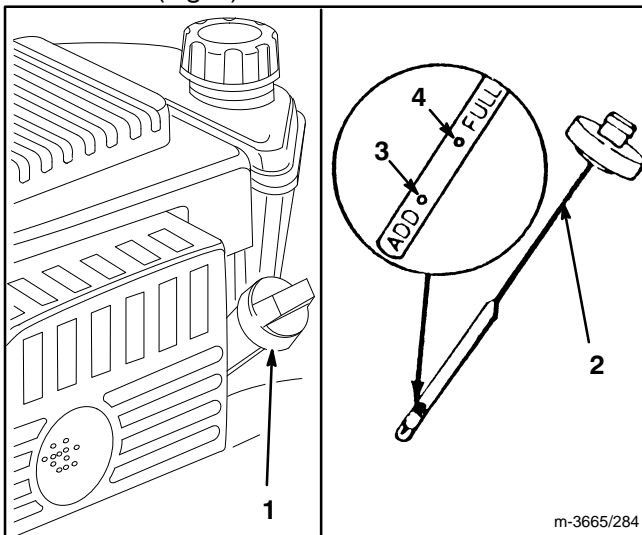

Figure 7
Fill crankcase with SAE 30 or 10W30 oil until oil level reaches FULL mark on dipstick as shown in Figure 7. The maximum crankcase capacity is 22 ounces (0.65 liters) of oil. Use any high quality detergent oil having the American Petroleum Institute (API) "service classification" — SF, SG, SH or SJ.
Before each use, ensure oil level is between ADD and FULL marks (Fig. 7). Add oil if level is low.
3. Wipe dipstick and insert it into filler neck. Rotate cap 1/4 turn. Then remove dipstick and check level of oil (Fig. 7). If level is low, add only enough oil to raise level to FULL mark on dipstick. **DO NOT FILL ABOVE FULL MARK BECAUSE ENGINE COULD BE DAMAGED WHEN STARTED. POUR OIL SLOWLY.**
1. **CHECK OIL LEVEL**—Maintain oil level between ADD and FULL range as shown on dipstick (Fig. 7).